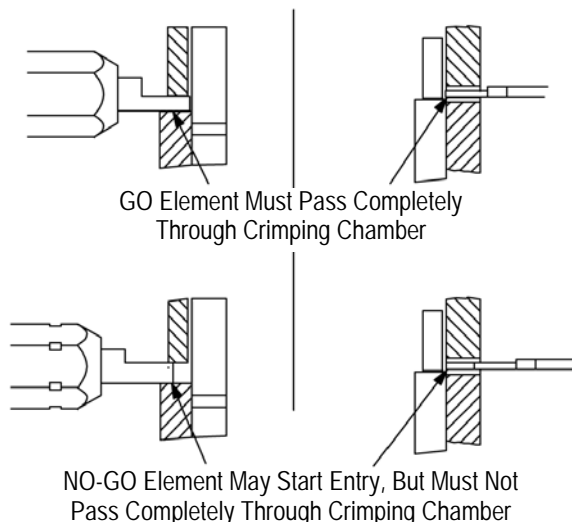

Figure 5
This inspection requires the use of plug gages conforming to the dimensions provided in Figure 5. TE does not manufacture or market these gages.
The GO element must pass completely through the crimping chamber. See Figure 5.
4. Align the NO-GO element and try to insert it straight into the same crimping chamber. The NO-GO element may start entry, but must not pass completely through the crimping chamber. See Figure 5.